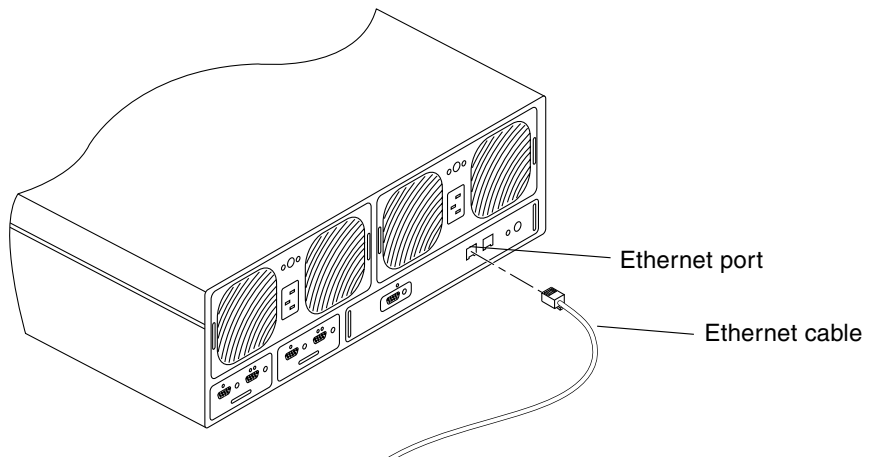

FIGURE 2-7 Connecting the Ethernet Cable
4. **Attach one end of the Ethernet cable to the Ethernet port on the controller card of the master unit (FIGURE 2-7).**